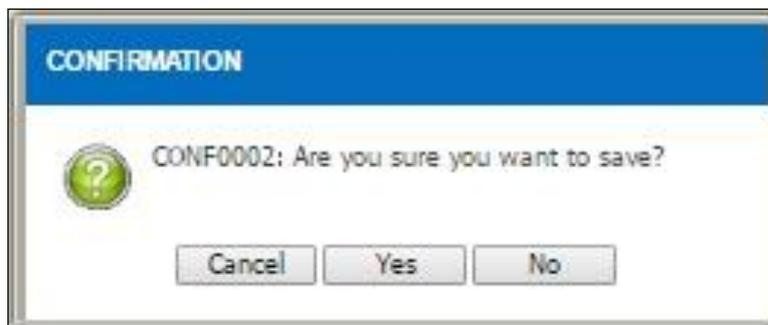

Figure 4.1.6-7 Alert Message
- Alert message will be displayed after the transaction is saved as per Figure 4.1.6-7
- Click on the  button to confirm the saved transaction and the item information will be displayed as Figure 4.1.6-8